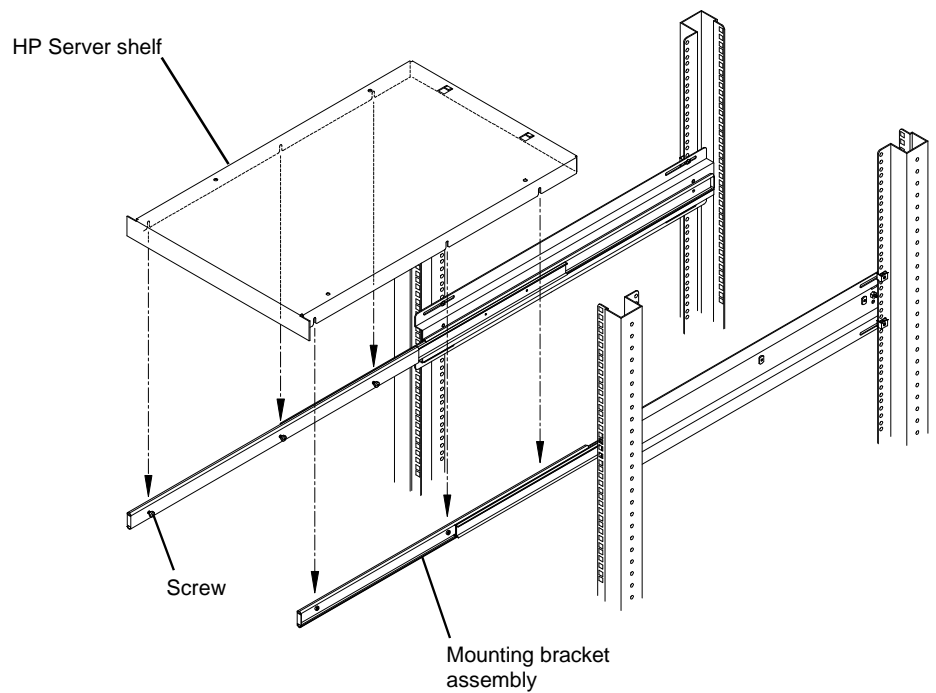

Figure 7
1. With the HP suspensions in the extended position, align the slots in the **HP Server Shelf** with the screws in the suspensions and tighten the screws securely. See **Figure 7**.